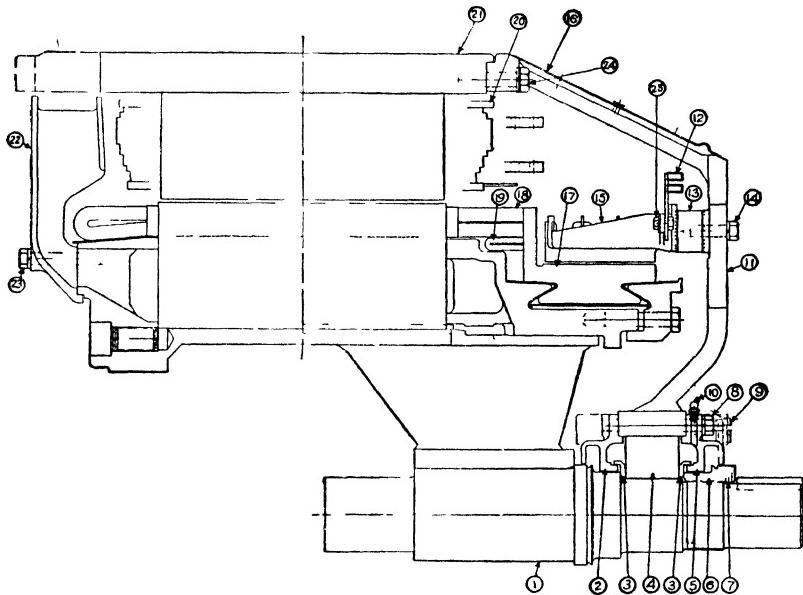

Fig. 2. Longitudinal Section Traction Generator, Types GT-552 and GT-553
**Disassembling Parts for Repair.** Refer to Longitudinal Section Fig. 2. The special main generator bearing puller is furnished with the generator to facilitate disassembling of parts.